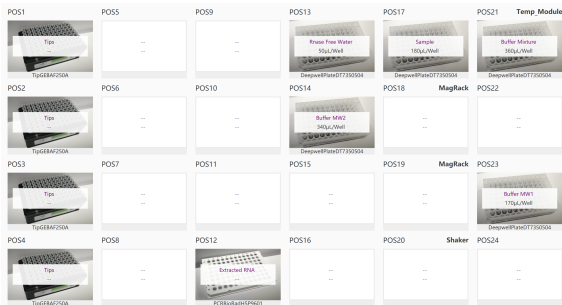

Figure 6. First Phase Operation Deck Arrangement
- 5) Click the menu button and select "Run Wizard" in the menu. In the Run Wizard interface, click "Solution", and select [JB-A09-039 MGISP-960 Nucleic Acid Extraction Kit_RV1.0_SV1.0], click "Script", to select [JB-A09-039 MGISP-960 Nucleic Acid Extraction Kit], operation deck arrangement of the first phase is displayed, as shown in following figure 6 and table 7. Follow the on-screen instructions to place the consumables, samples, and reagents, as shown in the figure 6. Confirm the placement and close the door.